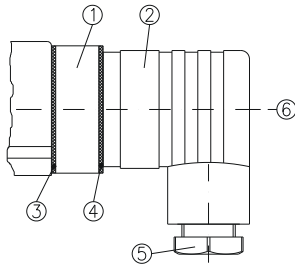

Fig. 5
- ⚡ Loosen the central screw ⑥ M3x35 and disconnect the cable socket ② from the connector ① (⇒ Fig. 5). Pull the central screw ⑥ out of the cable socket ②.